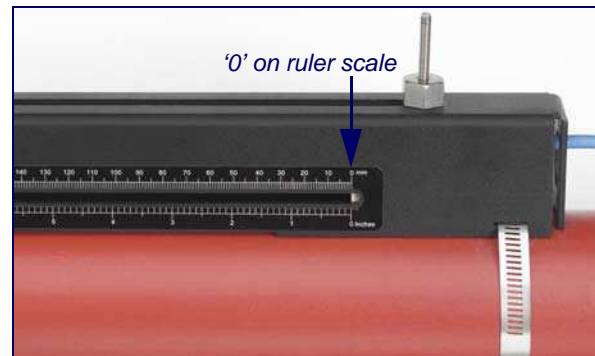

Figure 2.11
6. Carefully slide the downstream transducer assembly along the guide rail until the inner face of the transducer is aligned with the '0' mark on the ruler scale (Figure 2.11).